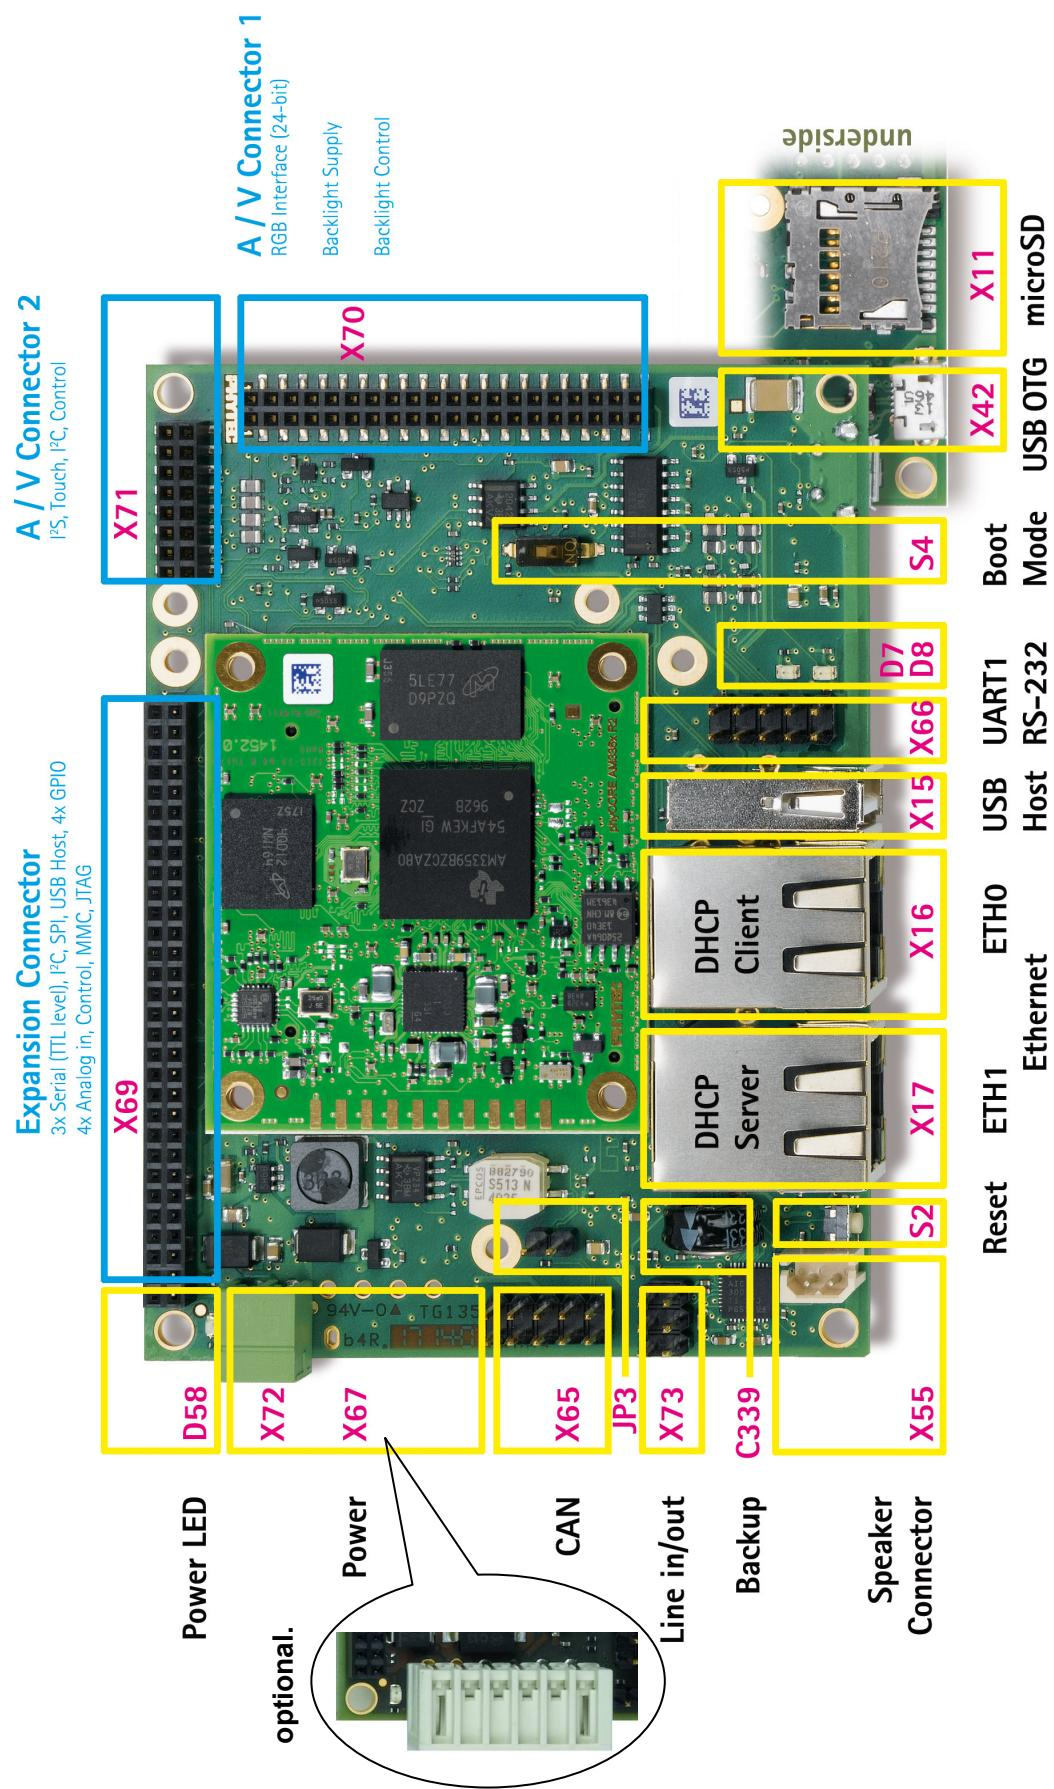

Figure 2: View of the phyBOARD-Wega AM335xR2
The phyBOARD-Wega AM335xR2 is depicted in Figure 2. It features many different interfaces and is equipped with the components as listed in Table 2 to Table 5. For a more detailed description of each peripheral, refer to the appropriate chapter listed in the applicable table. Figure 2 highlights the location of each peripheral for easy identification.
Table 2 lists all available connectors on the phyBOARD-Wega AM335xR2. Figure 2 highlights the location of each connector for easy identification.
*Figure 2* shows the location of the LEDs. Their function is listed in the table below:
*Figure 2* shows the location of the switches. Their function is listed in the table below:
Figure 2 shows the location of jumper JP3.
If a WAGO 6-pole male header is mounted on your board (*Figure 2* and *Figure 3*), your board is prepared to connect to a phyBOARD Power Module (PEB-POW-01) or a custom power supply circuitry. The ordering number of the mating connector from WAGO is EAN 4045454120610.
The red LED D58 right next to the power connector (Figure 2) indicates the presence of the 3.3 V supply voltage generated from the 5 V input voltage.
The phyBOARD-Wega AM335xR2 features an external RTC mounted on the phyCORE-AM335x module. It is used for real-time or time-driven applications. To back up the RTC on the module, a Goldcap (C339) (Figure 2) is placed on the phyBOARD. This voltage source is connected to the backup voltage pin VBAT\_IN\_4RTC (A2) of the phyCORE-AM335x and supplies the RTC and some critical registers of the Power Management IC when the primary system power, VCC5V\_IN, is removed. The backup supply lasts approximately 17½ days.